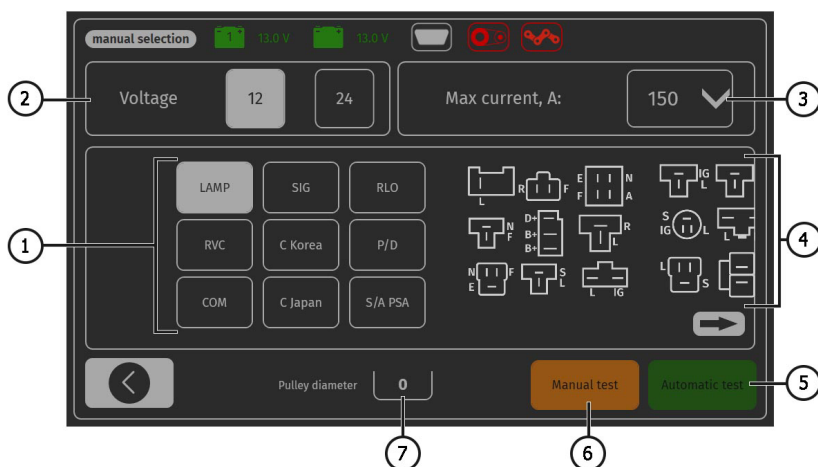

Figure 9. Menu for choosing of the diagnosed alternator type
Once the mode of alternator diagnostics is activated, the menu for **choosing of the diagnosed alternator type** (fig. 9) that contains:
6 – Alternator load control buttons. The value is rated as % of the set value (fig. 9, ref. 3).